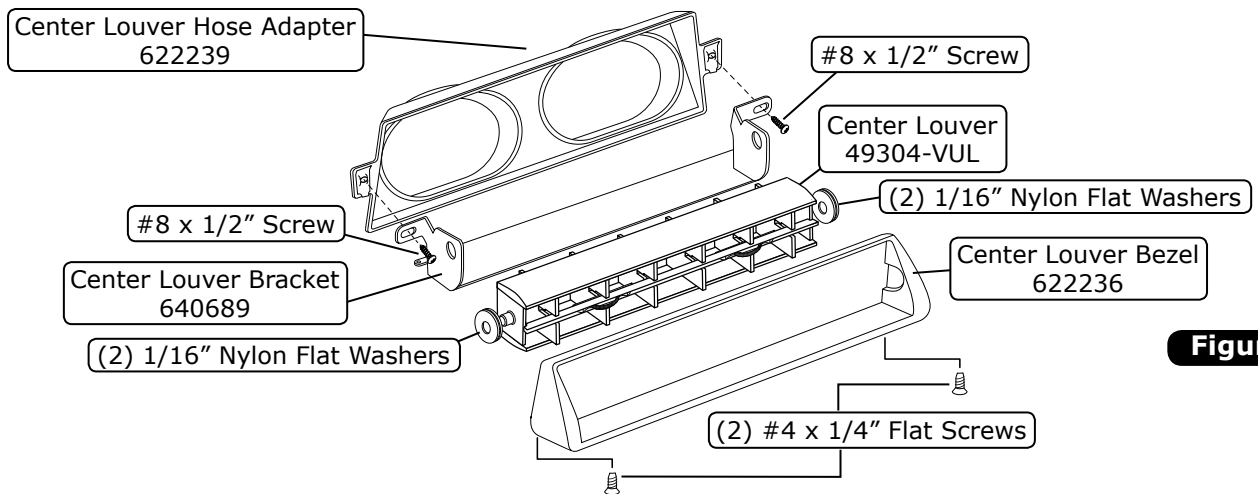

Figure 1
1. Locate the center louver assembly, and disassemble it as shown in Figure 1, below.
3. Install the dual hose adapter and center louver bracket into the dash using (2) #8 x 1/2" screws (See Photo 2, below).
4. Install (2) 1/16" nylon flat washers onto each end of the center louver (See Figure 1, below).
7. Install the center louver bezel over the center louver, and secure it using (2) #4 x 1/4" flat screws (See Photo 5, below).